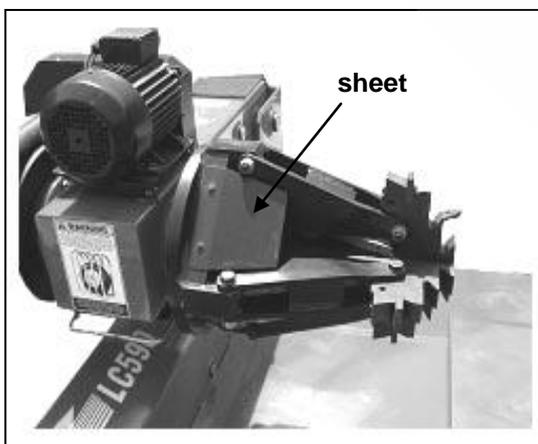

Fig21 Chuck protective sheet
1) Chuck protective sheet (Fig 21)